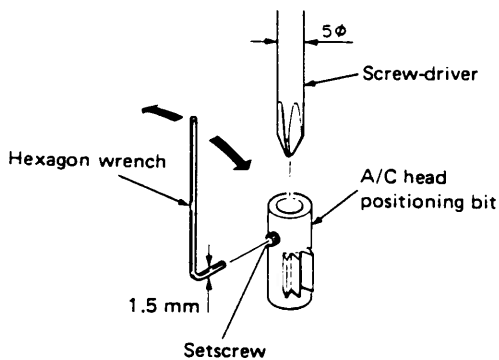

Fig. 1-2-1 A/C head positioning tool
- The installation of a A/C head positioning bit on the screw-driver.Refer to Fig. 1-2-1. Set screw-driver into the A/C head positioning bit where it does not interfere with adjusting the A/C head adjusting boss (position the screw-driver point 6 ± 2 mm from point of the A/C head positioning bit). Slightly tighten the setscrew by hexagon-wrench (1.5 mm).